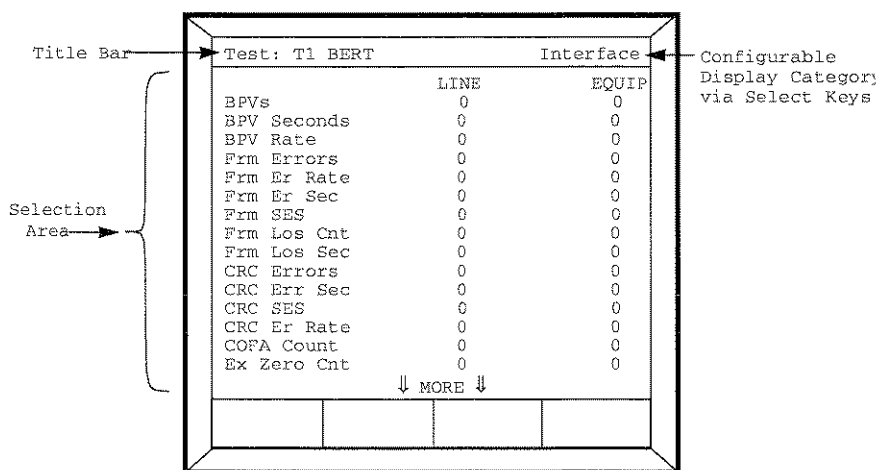

Figure 2-4 Typical Interface Category Results Page
The RESULTS III screen is used to display results for each of the Results Categories (i.e. Summary, Interface, Test Type, Signal, Time, and Performance). In addition, an Alarms category is also provided which lists the date and time the alarm occurred, as well as where the alarm occurred (i.e. the **LINE** (L) or **EQUIPMENT** (E) side) where applicable. A typical Interface Category results page is shown in Figure 2-4 and a typical Alarms Category results page is shown in Figure 2-5.